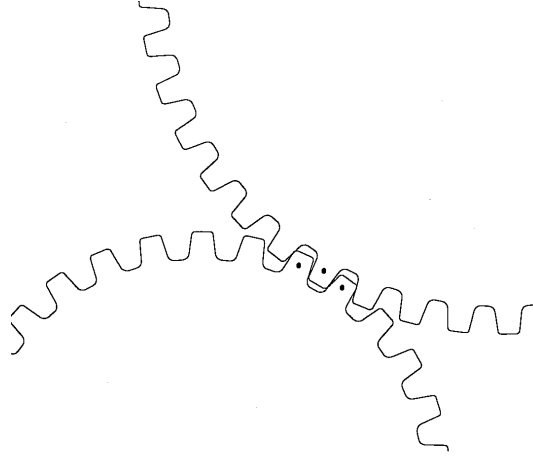

Figure 8. Aligning gear teeth.
Install the balancer shaft by aligning the dots on the balancer shaft gear teeth and the crankshaft gear teeth by rotating the shafts. See Figure 8.
5. Install the camshaft by aligning the dots on the camshaft gear teeth and the crankshaft gear teeth by rotating the shafts. See Figure 8.